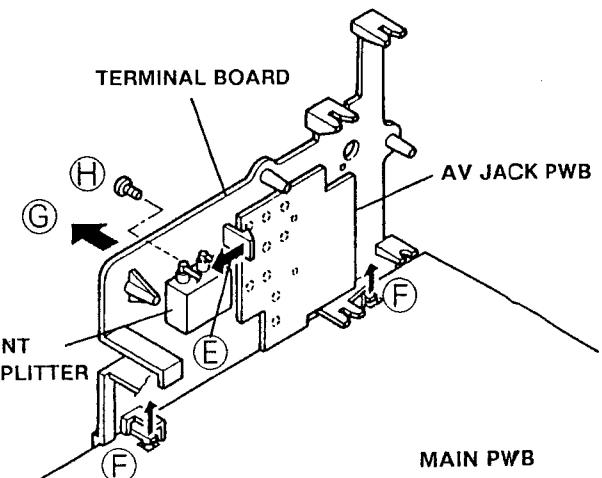

Fig.1
- 2. After removing the claw marked **(E)** from the AV JACK PWB in the direction of arrow mark as shown in Fig.1, remove the 2 claws marked **(F)** in the direction of arrow mark, then take off the TERMINAL BOARD in the direction of arrow marked **(G)**.
1. Remove a screw marked **(H)** as shown Fig.1.